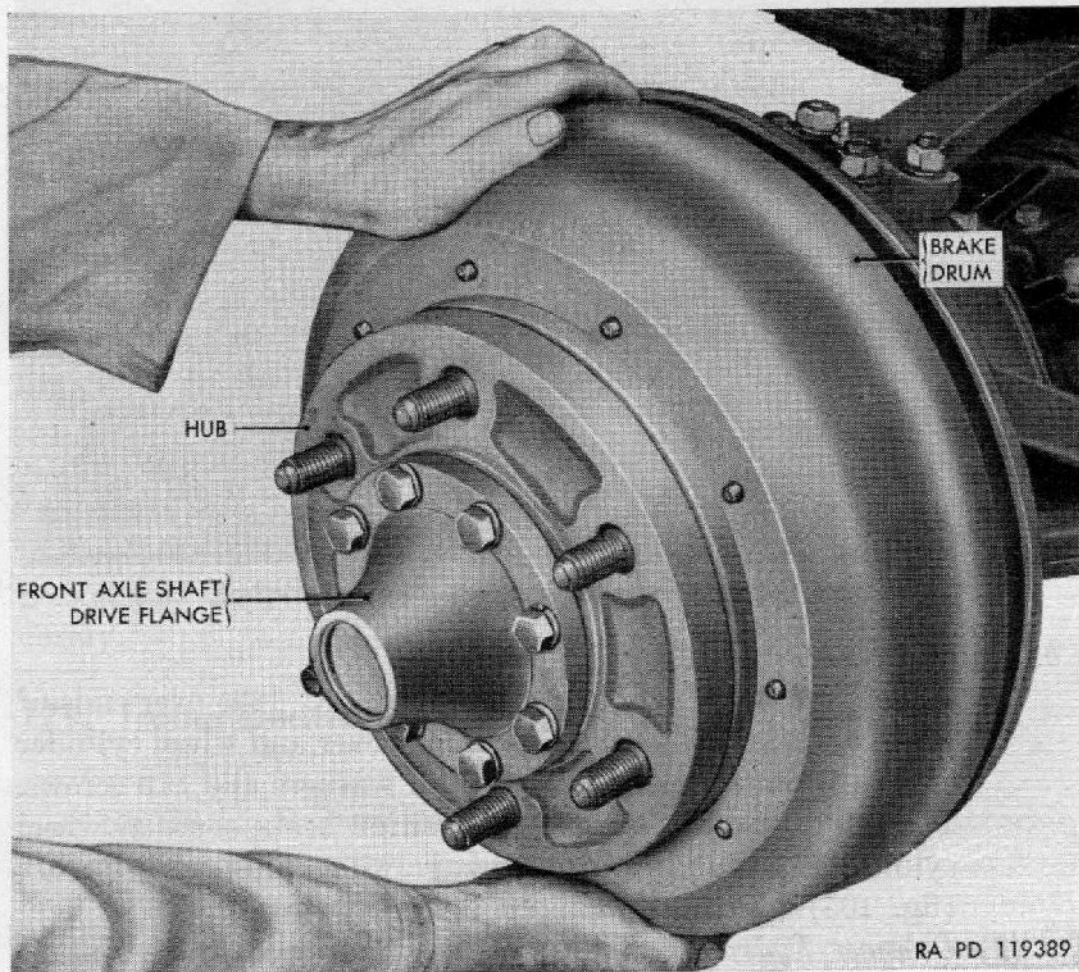

Figure 106. Brake drum removal.
a. REMOVAL. Raise truck, remove six wheel-stud nuts and remove wheel and tire assembly (par. 183). Remove 10 nuts and lock washers holding brake drum to hub. Pry drum loose and pull drum off studs (fig. 106).
b. INSTALLATION. Place drum over studs on hub (fig. 106). Install 10 lock washers and nuts; tighten nuts evenly and securely. Install wheel and tire assembly on hub, install nuts, and tighten from 400 to 450 lb-ft torque (par. 183). Lower truck.